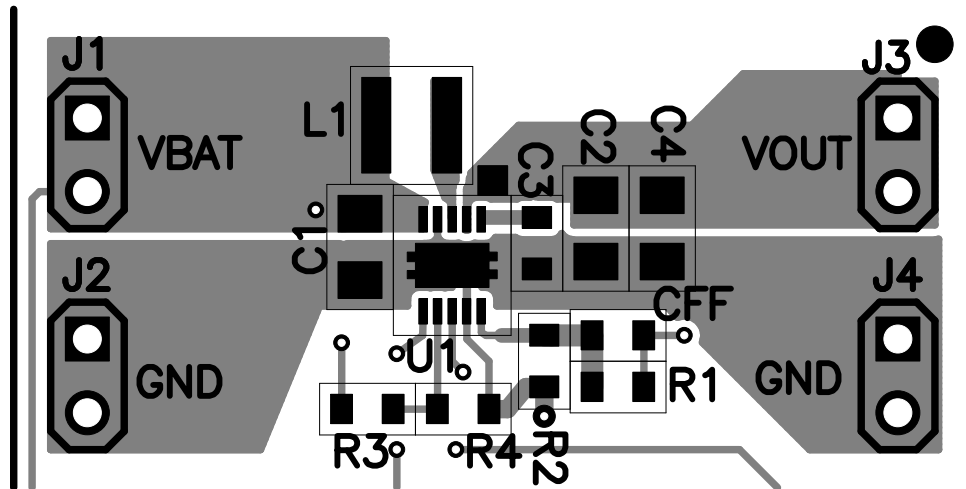

Figure 25. EVM Layout
The feedback divider should be placed as close as possible to the control ground pin of the IC. To lay out the control ground, it is recommended to use short traces as well, separated from the power ground traces. This avoids ground shift problems, which can occur due to superimposition of power ground current and control ground current. See Figure 25 for the recommended layout.
- Added Figure 25 17